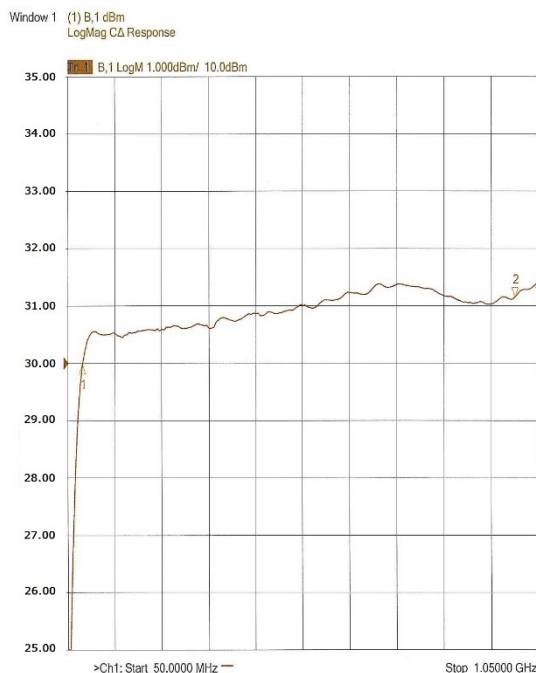

Figure 4-9. Typical A1 Pre-Amplifier Response
8. The typical response for the A1 Pre-Amplifier (at maximum gain setting) is shown in Figure 4-9.